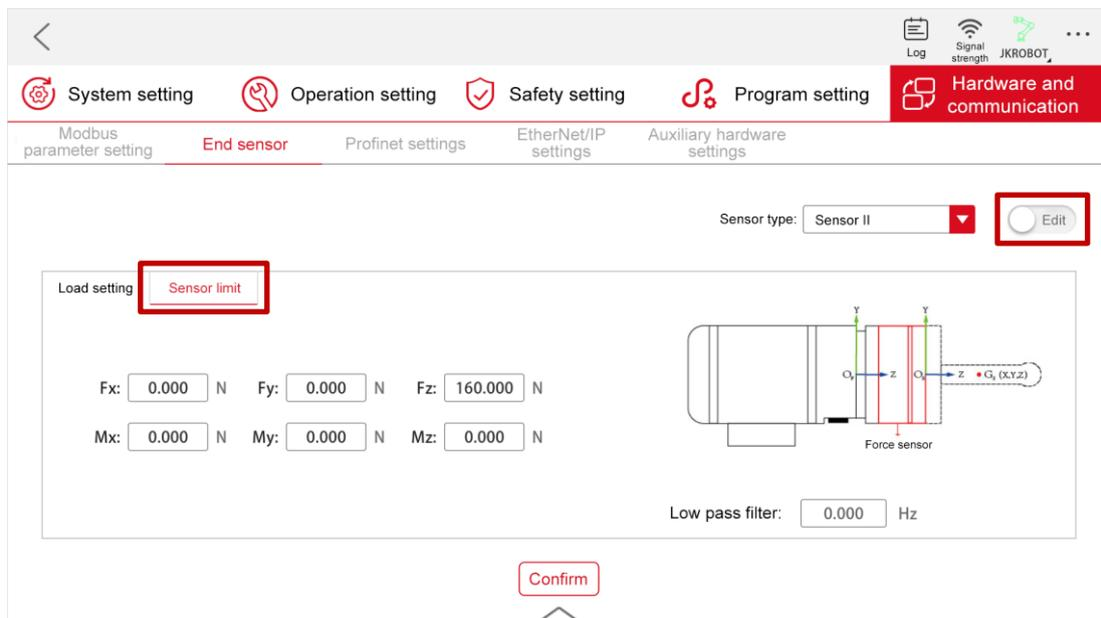

Figure 3-10 JAKA Zu Se Safety Function Settings
- b. Tap [Settings] at the upper right of the Home page, then tap [Hardware and communication] → [End sensor] → [Sensor limit] to enter the load setting interface, and change the toggle switch status to [Edit] (See Figure 3-10);